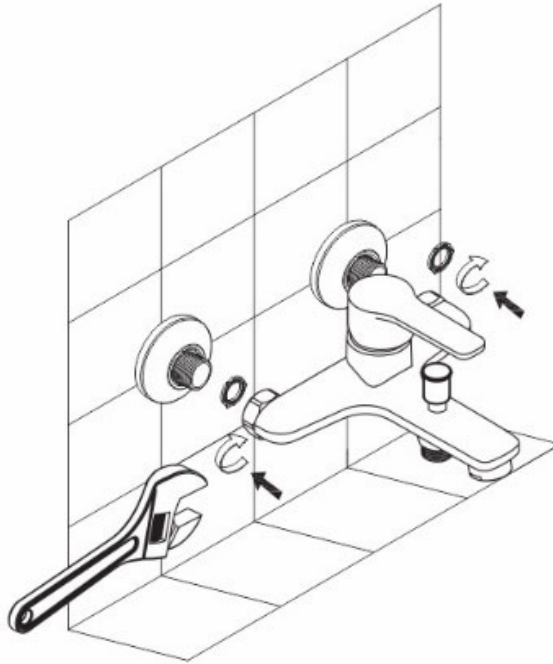

Figure 8
5. Screw the faucet to the installed S-connetcors (Figure 8).